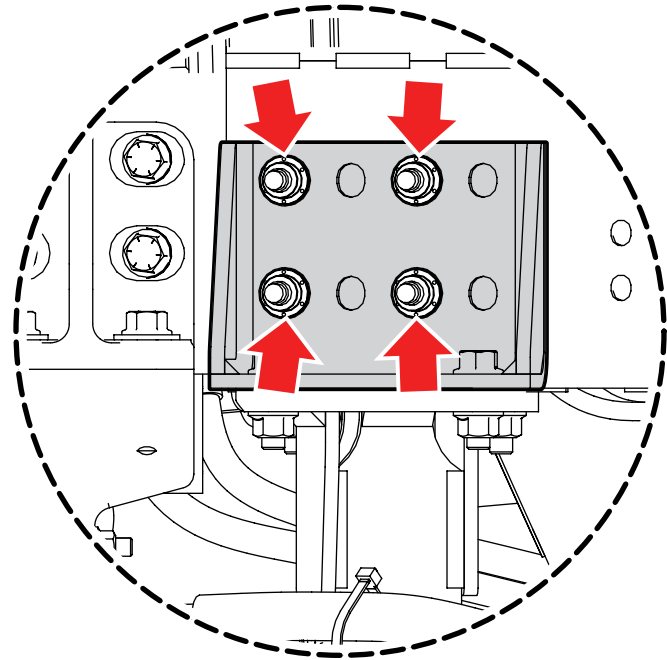

Figure 2, Inspect 4 Huck Fasteners
3. Inspect the power steering assist cylinder bracket hardware for looseness, if all hardware is found to be secure, proceed to step 5. If any hardware is found to be loose, proceed to step 4 (see Figure 2).